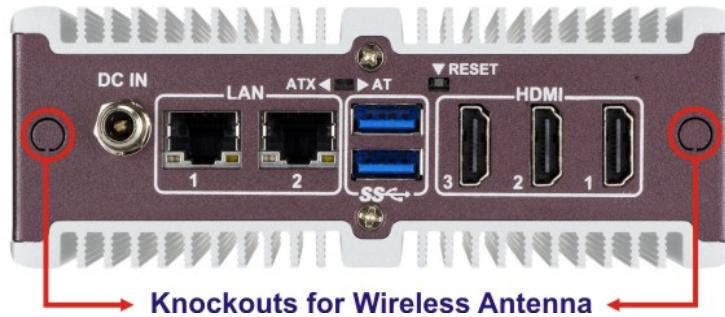

Figure 3-3: Knockouts for Wireless Antenna
Step 2: Remove the two knockouts for antenna installation. The two knockouts are located on the rear panel of the IDS-310AI as shown in **Figure 3-3**.